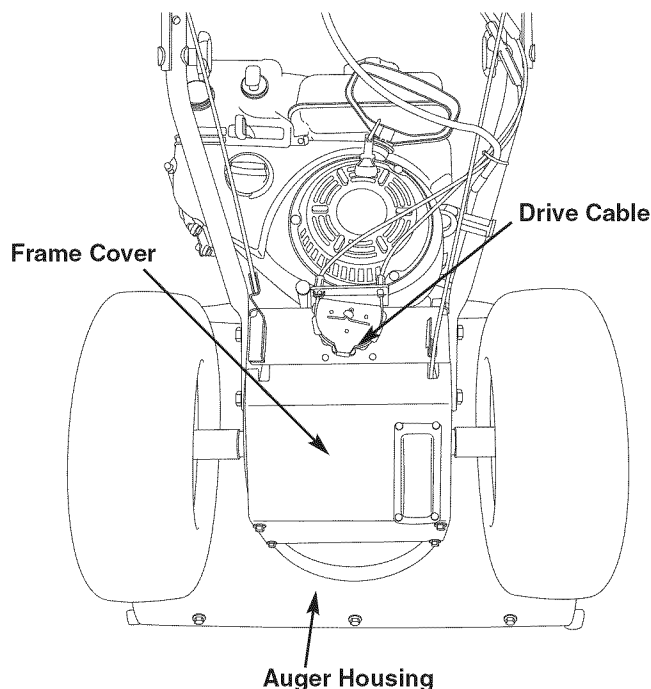

Figure 12
1. Tip the snow thrower forward, allowing it to rest on the auger housing. (see Fig. 12)